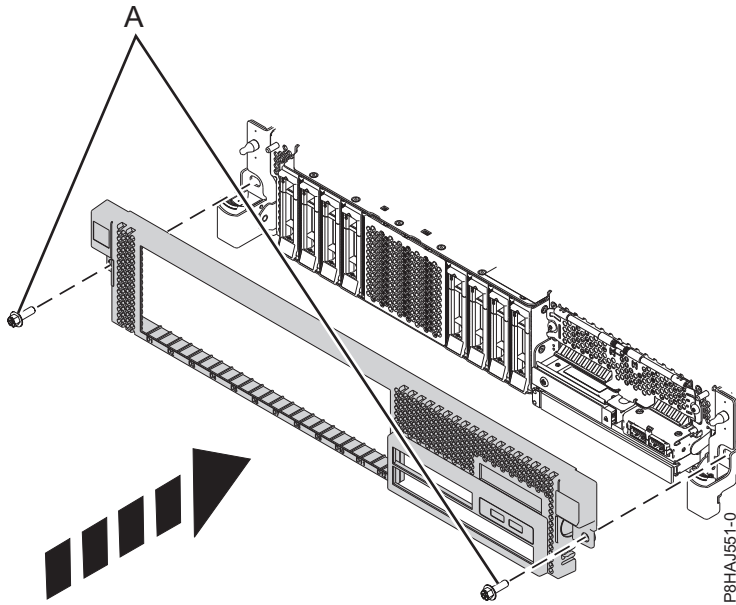

Figure 62. Installing the front cover
3. Close the release latches by pushing in the direction shown in Figure 62 on page 100. The cover snaps into place and has an indentation where you can hold onto it more easily.
4. Replace the shipping screws (A).